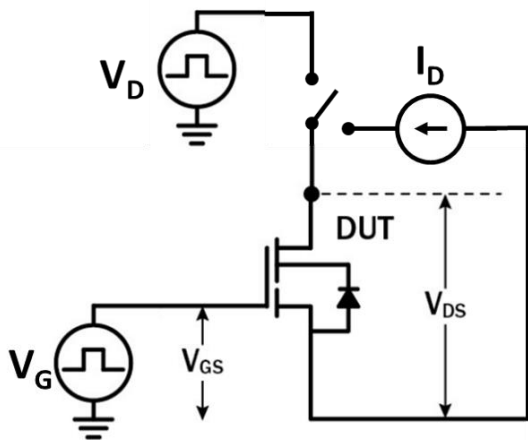

Figure 19. Dynamic  $R_{DS(on)eff}$  Test Circuit
- f. Dynamic  $R_{DS(on)}$ , 100% tested; see Figures 19 and 20 for test circuit and conditions